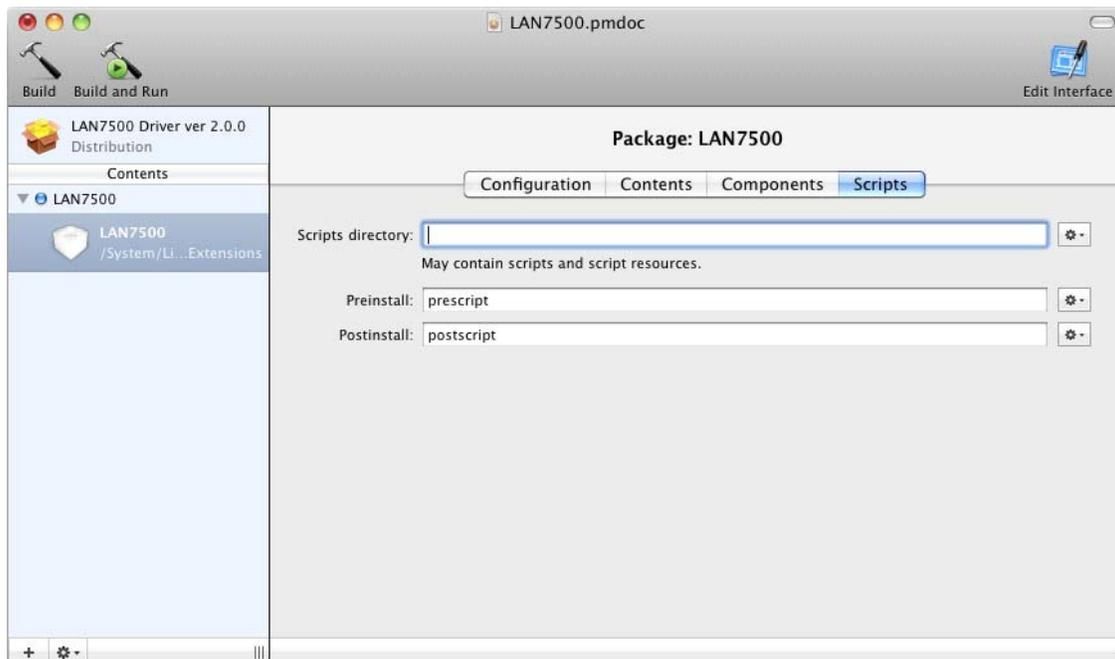

Figure 8.11 Scripts Information
- Under the “Scripts” heading, add the prescript and postscript files created earlier to the Preinstall and Postinstall fields as shown in Figure 8.11.